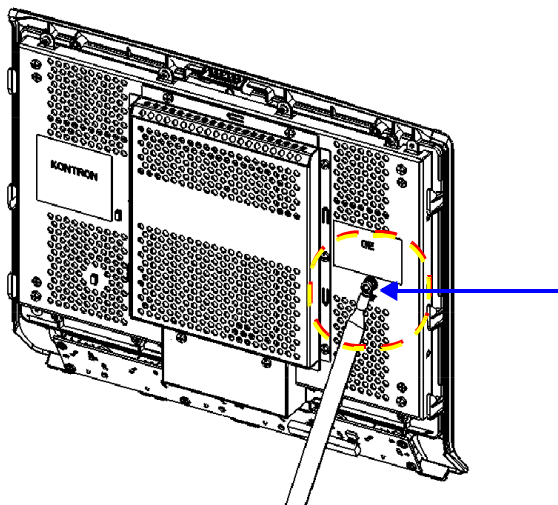

Figure 8-43 Disconnecting the Ground Cable
- 5.) Using a 7 mm socket, disconnect the Ground cable - Figure 8-43.
- 4.) Reconnect the Ground cable - Figure 8-43.